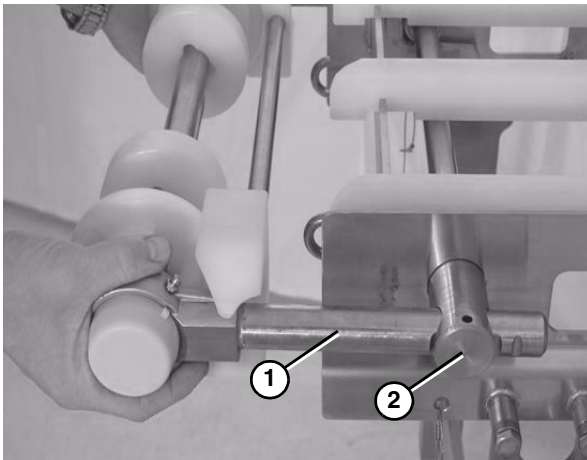

Figure 59
2. Slide the idler tail assembly (**Figure 59, item 1**) out of the take up blocks (**Figure 59, item 2**).